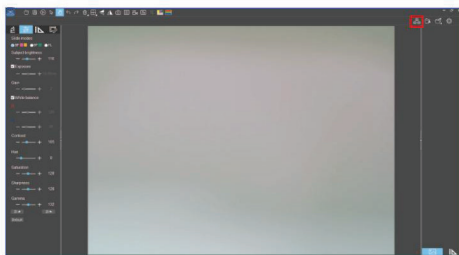
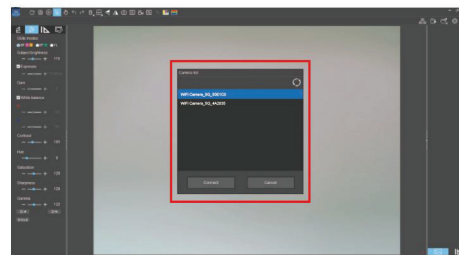

Figure 1
Figure 2
- When there are multiple network cameras in the same local area network, click the icon "👁️" in the upper right corner of LW Scientific Capture Pro (**Figure 1**). The list automatically shows all cameras in the current local area network (**Figure 2**). Select a camera as needed.